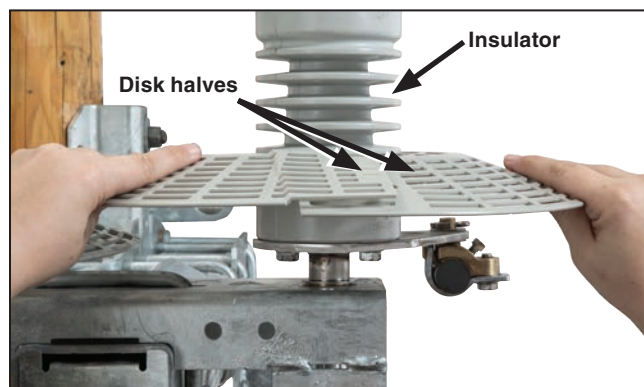
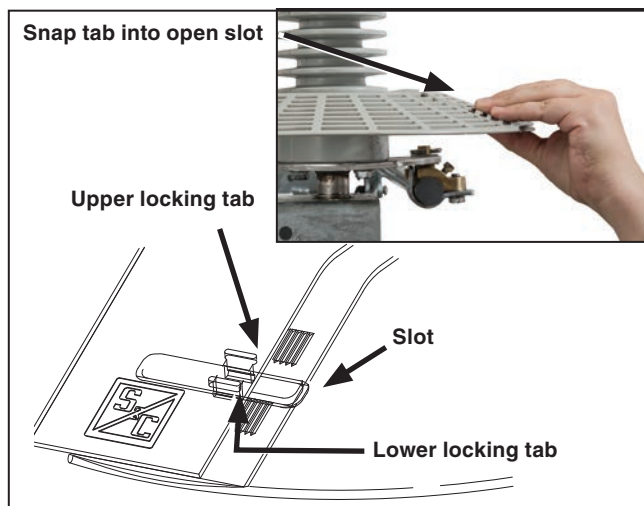
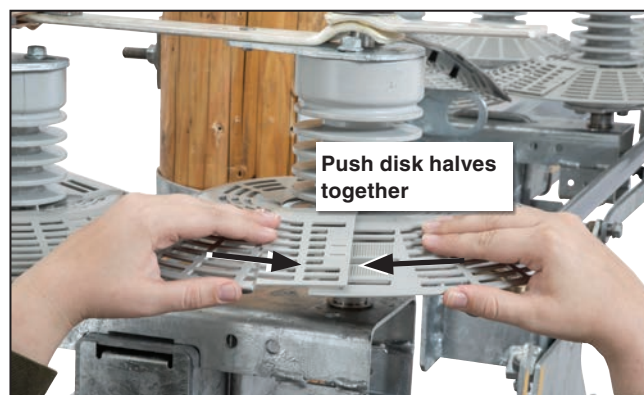

Figure 16. Fit the disk halves around the insulator.
Figure 17. Snap lower tab into open slot.
Figure 18. Push disk halves together. Snap upper tab into place. Disk halves should fit as tight against the insulator as possible.
- (a) To assemble the disks, fit the disk around the insulator on the blade end of the switch. See Figure 16. Then, insert the locking tabs of one-half of the disk into the open slot on the other half to create a secure overlapping fit. Repeat the procedure on the opposite side of the disk. When the halves are correctly assembled, the S&C logo will be on top of the disk on both sides. See Figure 17.
- (c) Push the two halves of the disk together in toward the insulator so the disk fits the insulator as close as possible. See Figure 18. Snap the upper locking tab firmly into place. Both tabs should protrude through the open slot, as shown in Figure 17.